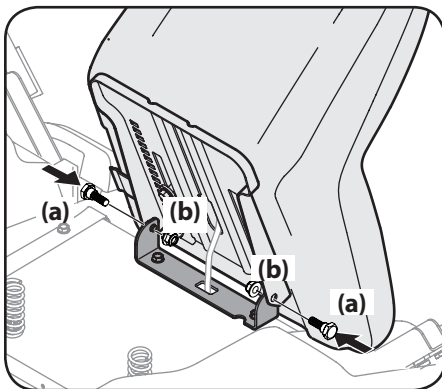

Figure 2-5
3. Rotate the seat into position and secure the seat into place with the previously removed shoulder screws (a) and lock nuts (b). Be careful not to crimp or damage the wire harness while installing the seat. See Figure 2-5.